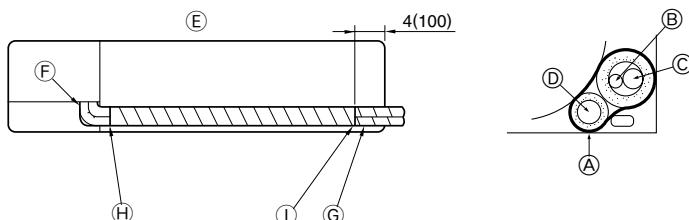

Fig. 5-4
■ PKFY-P06/P08NAMU-E (Fig. 5-4)